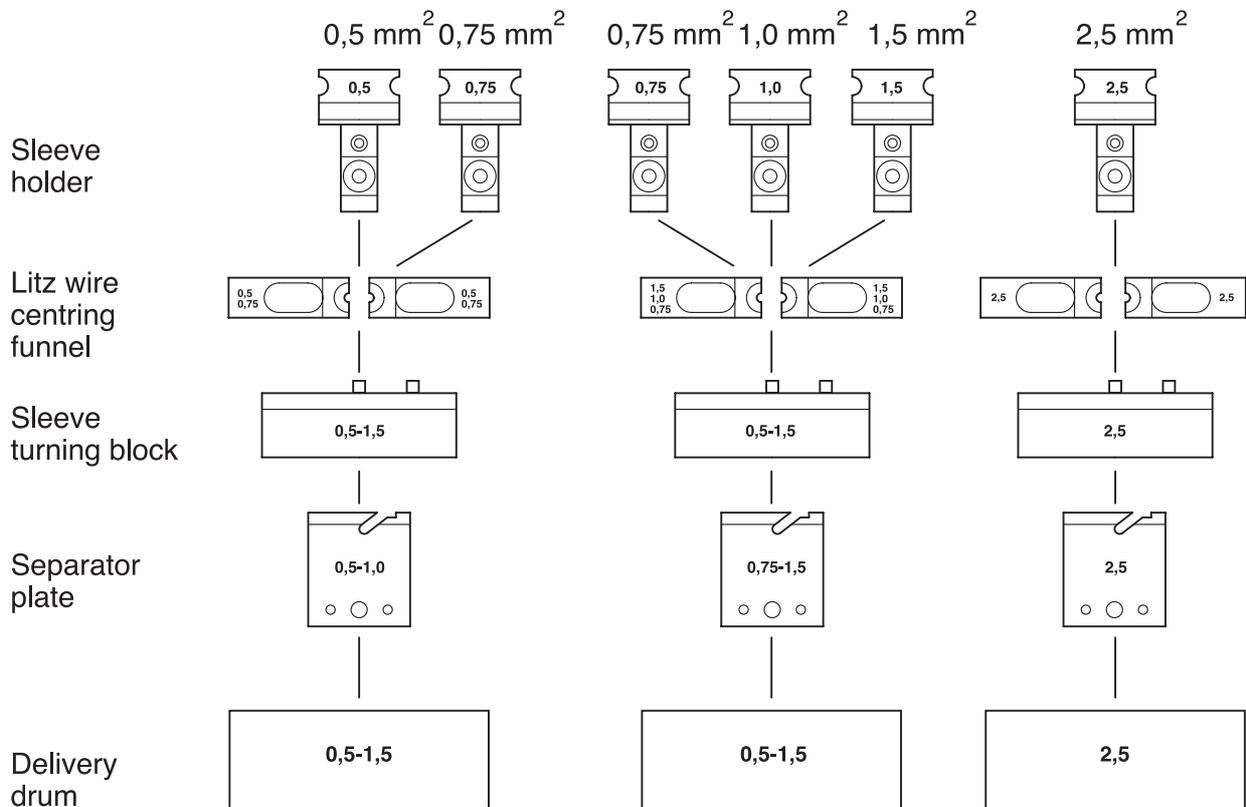

Figure 23 Retooling kits
- Open the front door (1).
- Check the correct cross section setting, see Figure 23; if necessary, tool in accordance with the chapter **RETOOLING**, steps 1 – 7.
- Figure 23 shows which retooling kit must be used for which cross section.